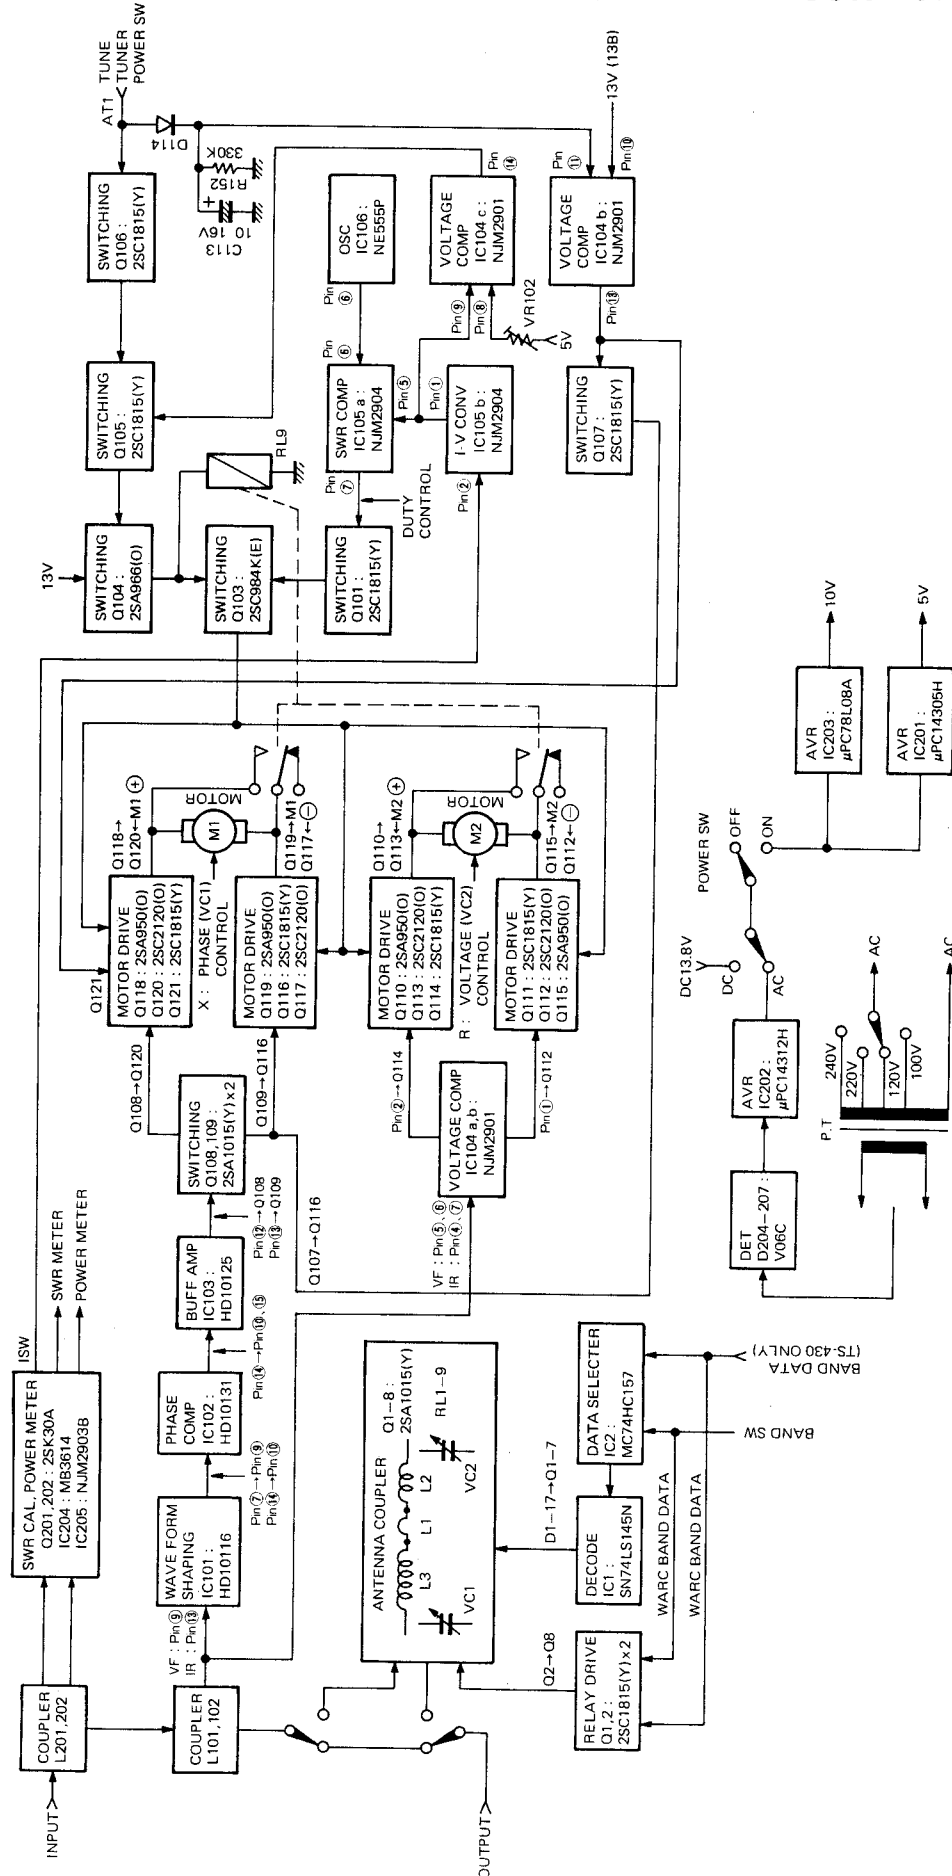

Fig. 1 Block diagram
A block diagram of the AT-250 is shown in **Fig. 1**. The AT-250 covers all HAM bands from 1.8MHz to 29MHz. When the TUNER and TUNE switches are turned ON and the companion TS-430 transceiver is placed in the transmit mode, both forward and reflected power are detected by directional coupler L201 and L202, which appears between the Control unit (B) (X53-1360-00) IN and OUT terminals. Forward and reflected power is also detected by directional coupler L101 and L102, located between the Control unit (A) ANI and ANT terminals. The former coupler is used to drive the SWR meter and the RF power meter (20W and 200W). The directional couplers are toroidal core transformers; these provide superior characteristics within the 1.8 to 30MHz HF range.